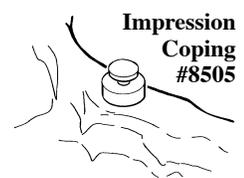

Fig. 11
2. Place a Locator Impression Coping with Black Processing Male (Zest order # 8505) onto each Locator Abutment. (Fig. 11)